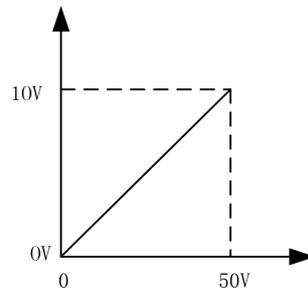

Fig. 4-25 Proportional diagram: preset welding voltage under non-synergic mode V.S. value from robot to welding machine
4. Under non-synergic mode, the proportional diagram of the preset welding voltage is shown in Fig. 4-25.